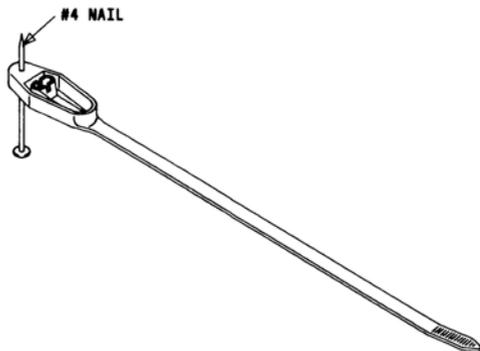

Fig. 1—⚡B Drive Tie⚡
1.03 ⚡ The B drive tie (Fig. 1) is intended for holding cable or wire or wood surfaces. The B drive tie is a 1-piece black-plastic tie with a number four galvanized flathead nail protruding through a tab at one end. Installation is by driving the nail into a wood surface or a plastic anchor. The B drive tie will hold wire or cable up to 1-1/8 inches in diameter. ⚡